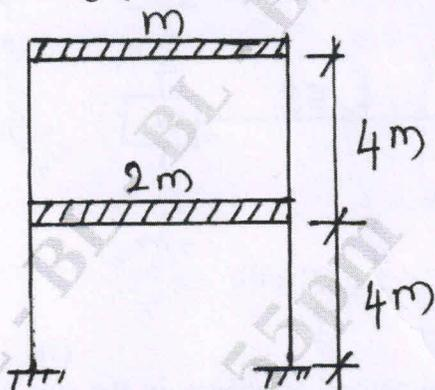

Fig.Q6
- 6 For the shear building, determine the natural frequencies and mode shapes. Check the orthogonality of mode shapes for Fig.Q6. Given: mass, $m = 12800$ kg; $EI = 20000$ kN-m².